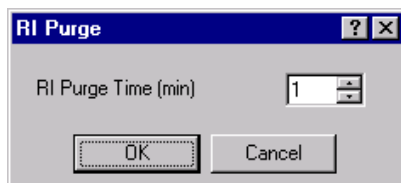

Figure 3-24 RI Purge Dialog Box
3. When the solvent flow reaches the specified rate, select Operations > RI Purge to open the RI Purge dialog box (Figure 3-24).